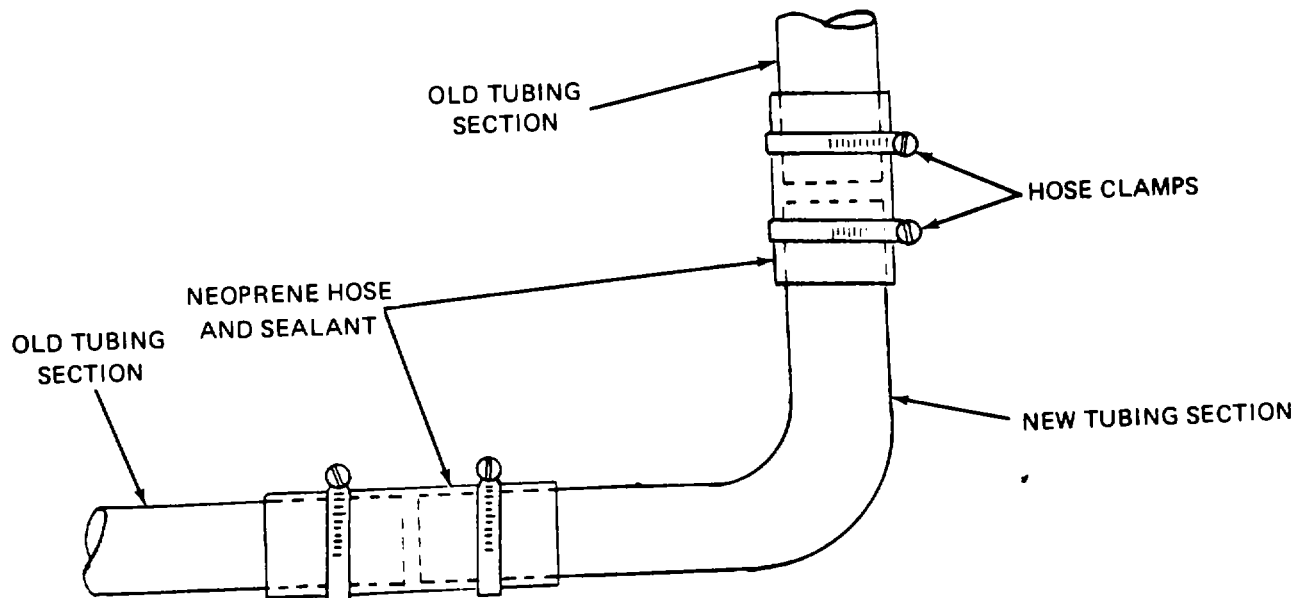

Figure 5-8. Damaged Bends Repair.
- (5) *Option 5: Repairing damaged bends.*
- (a) Cut a bend from an old hydraulic line, mirror arm or similar material (figure 5-8).
- (6) *Other options: Seal the crack with epoxy.*